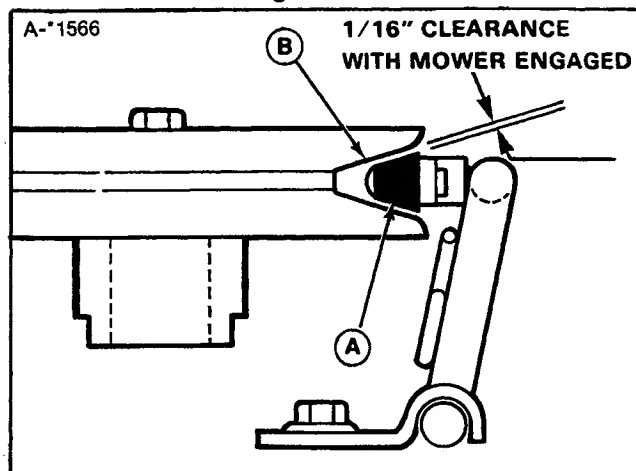

Figure 39.
4. Inspect the brake pad (A, figure 39) to V-pulley (B) clearance. With PTO engaged, clearance should be $1/16$ inch as shown in figure 39.